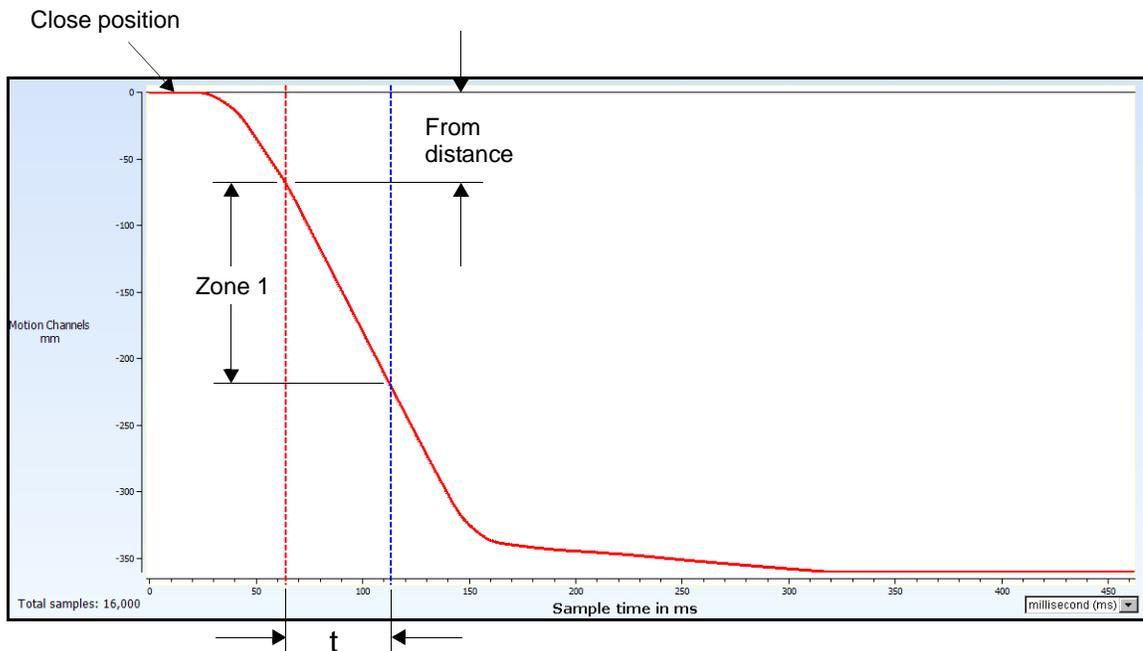

Figure 65 Average Velocity Distance to Time Trip Operation
- Distance to Time—The circuit breaker average velocity is calculated between the distance specified and a time after the circuit breaker mechanism passes the specified point. Distance is relative to the starting closed position (0.000 in/mm). (See Figure 65.)